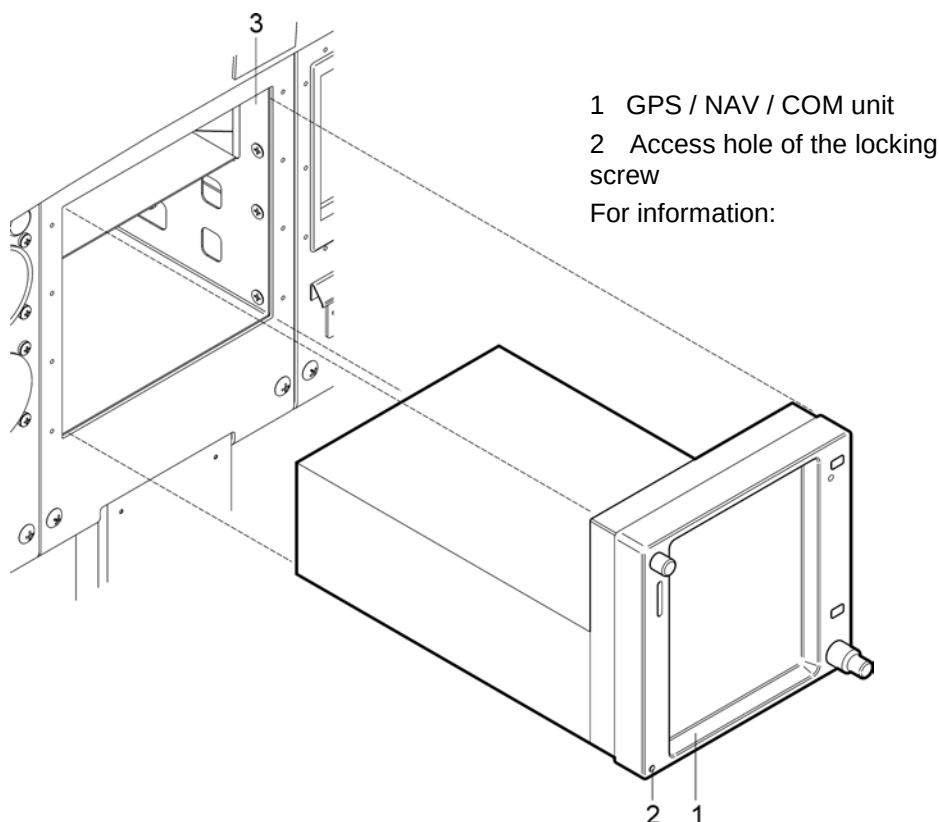

Fig. 12.3.19-1: GPS / NAV / COM unit removal / installation
- Put a 3/32 Allen wrench into the access hole (2, Fig. 12.3.19-1) for the locking screw; engage the screw.
- Turn the screw counter-clockwise until the unit (1) is forced out about 9.5 mm ($\frac{3}{8}$ in) and can be freely pulled from the mounting rack.
- Slide the unit (1, Fig. 12.3.19-1) straight in the rack until it stops about 25 mm (1 in) short of the final position.
- Insert Allen wrench into access hole (2).